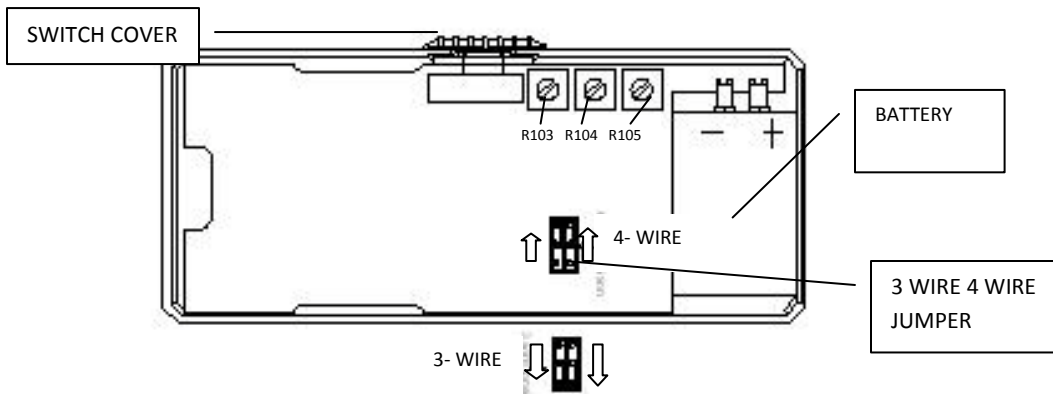

Figure 3. 3-Wire/4-Wire Jumper Location
3. Place the 9V battery in the battery compartment as indicated in Figure 3, on page 7. Be sure to observe proper polarity.
- B. Place the 3-wire/4-wire jumper (see Figure 3) in the desired position.
The following procedure must be performed with the instrument in the 4-wire mode. See Figure 3 for the location of the 3-wire/4-wire jumper which sets the appropriate mode. Access to the jumper requires rear cover removal as described in the disassembly instructions.